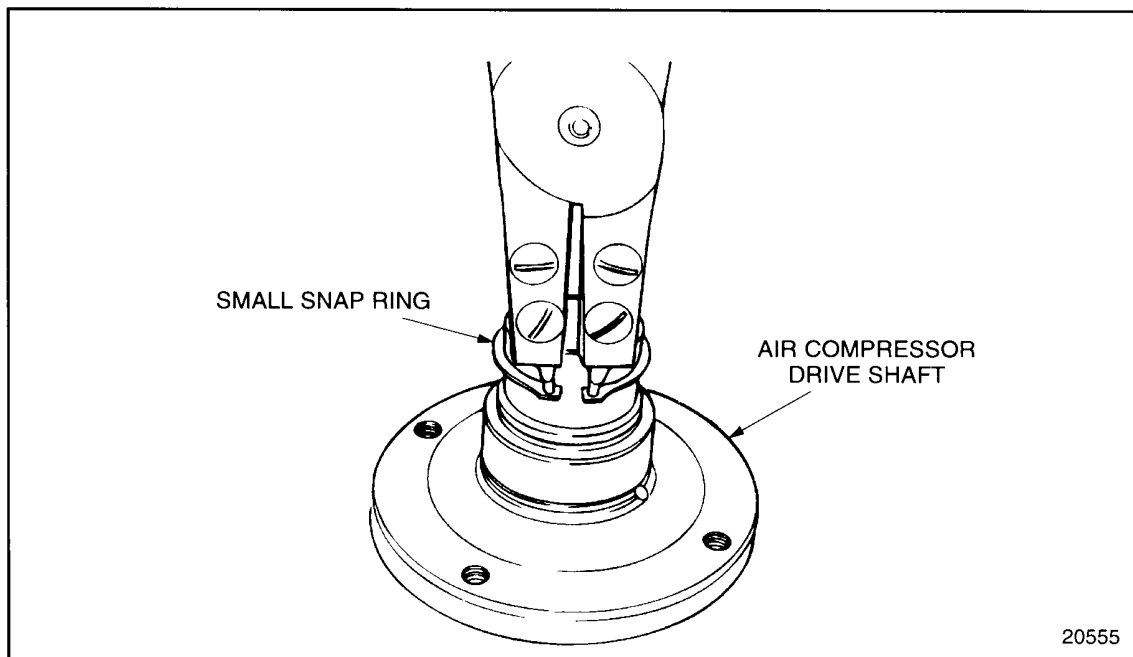

Figure 10-18 **Roller Bearing Inner Race Snap Ring Removal**
20. Using snap ring pliers, remove the small snap ring retaining the roller bearing inner race on the air compressor drive shaft. See Figure 10-18.